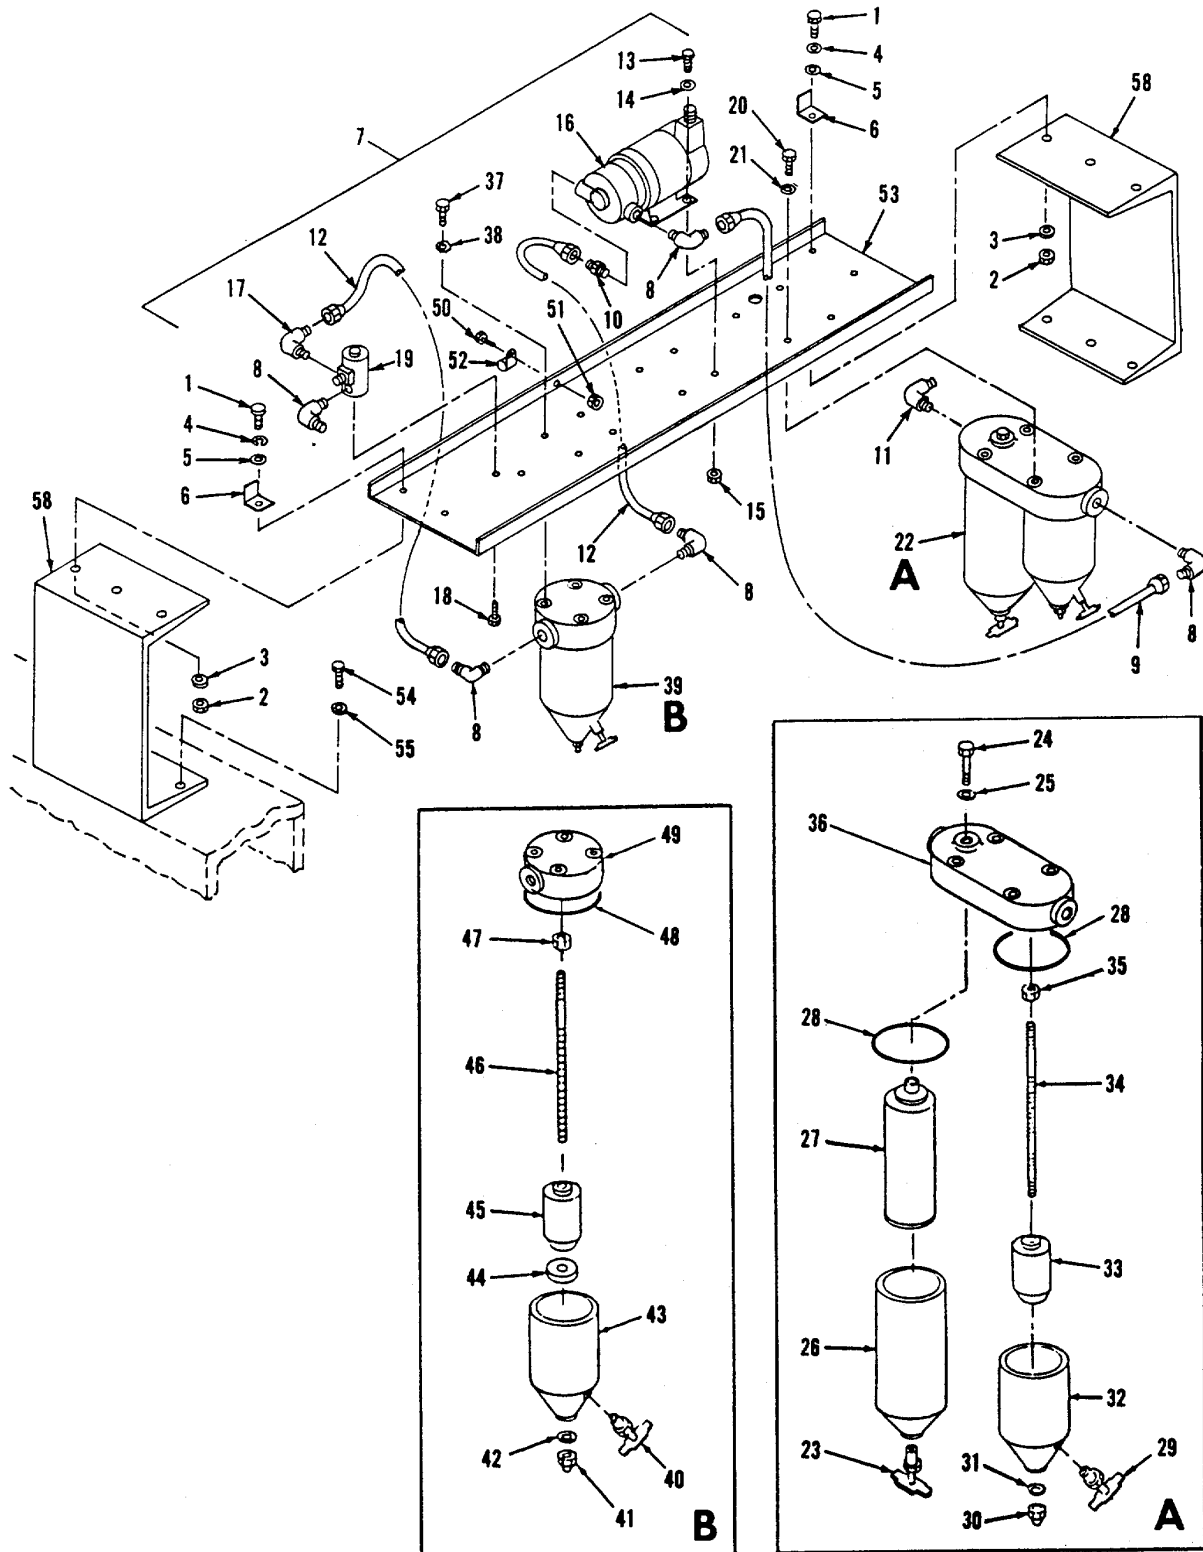

Figure 4-31. Fuel Transfer Pump Installation, Exploded View.
4-52. FUEL TRANSFER PUMP. The fuel transfer pump (figure 4-31) has a DC operated motor and is used to transfer fuel from an auxiliary source to the generator set fuel tank. Pumping is automatically controlled by a float level switch in the generator set fuel tank when the FUEL PUMP switch on engine control panel (see figure 2-1) is in the AUTO position. The pump (16, figure 4-31) is mounted on the support bracket (51) on the generator set base assembly.
- (1) Inspect pump for leaks, loose connections, dents, and cracks.
- (2) Remove fuel line from pump inlet connection and inspect filter assembly for accumulated dirt, cracks, breaks which would cause restriction to fuel flow.
- (3) Inspect the motor for overheating or other visible signs of damage.
- (1) Place 24V DC CONTROL CIRCUIT BREAKER on generator panel to OFF, and FUEL PUMP switch on engine panel to OFF position.
- (2) Disconnect hose assembly connected to pump connector (10, figure 4-31).
- (3) Attach a length of hose of this connector and place in a container of adequate size.
- (4) Connect an external fuel supply to the fuel transfer pump connection on the outside of the base assembly.
4-53. FILTER AND STRAINER. (See figure 4-31).
LEGEND FOR FIGURE 4-31.